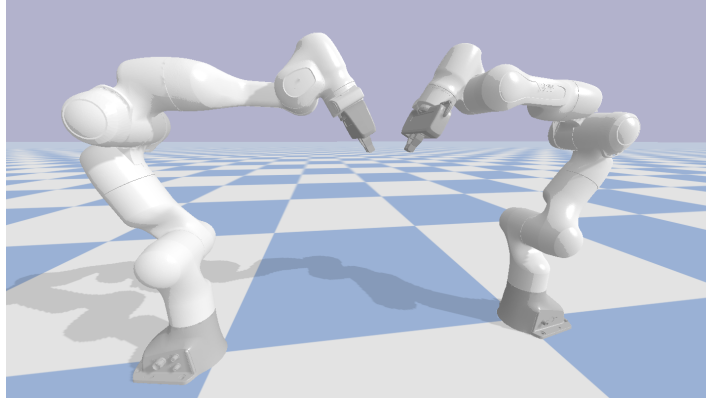

Figure 5: Relative orientation at the grasping position
5. The first phase foresees to move the tool frame of both manipulators to the grasping points, by implementing a “move to” action and its corresponding tasks. Define the goal frames for each manipulator such that their origin corresponds to the grasping points. **HINT:** the position of the grasping points can be computed by knowing the origin of the object frame wO_o and the object length l_{obj} . The goal orientation of the tool frames is obtained by rotating the tool frames 30 deg around their y-axis; the manipulators should reach the configuration depicted in Figure 5.